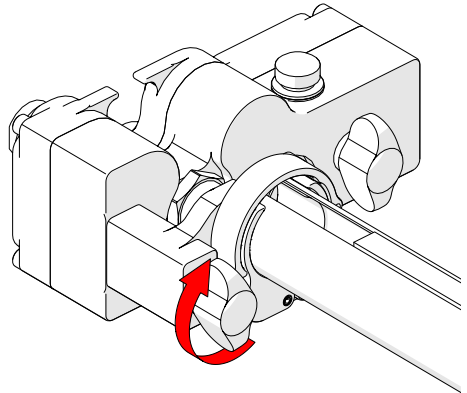

Fig. 242 - Tighten wing knob
2. Tighten the zipper tube clamp wing knob (*Fig. 242*).